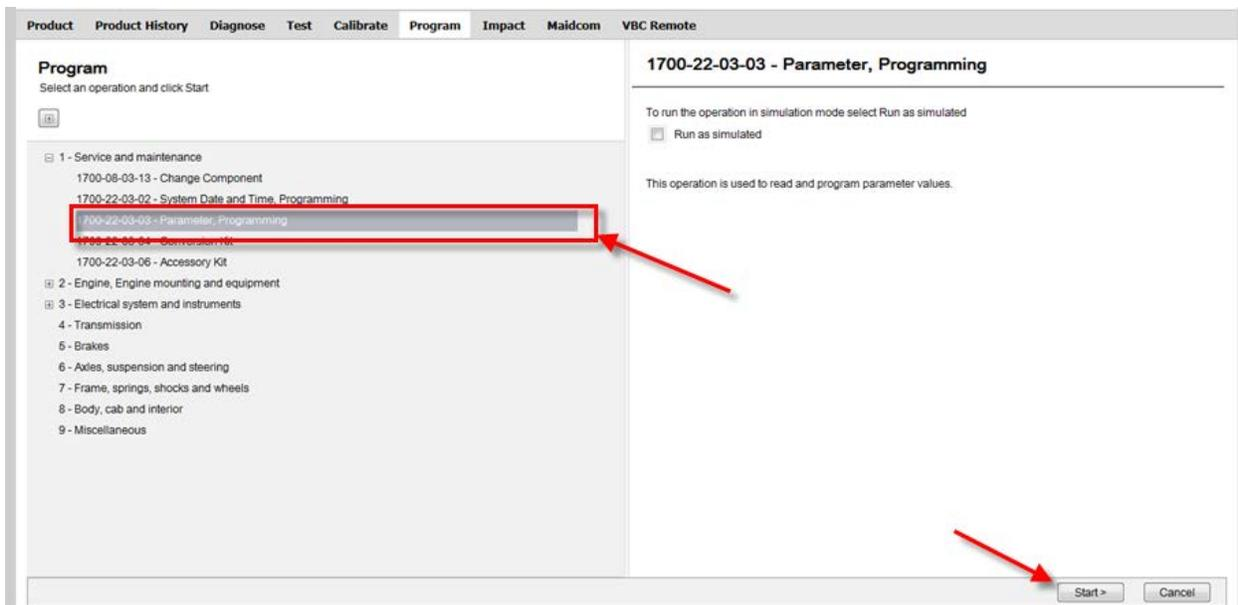

FIGURE 29
- In Premium TechTool, select PROGRAM tab. In PROGRAM tab, select operation 1700-22-03-03 Parameter, programming then click START (FIGURE 29).